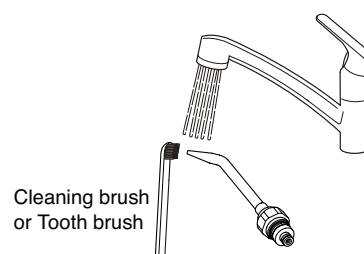

Fig.4-11 Cleaning Belmont 77 Syringe Nozzle
- Wipe off the surface contamination by a cloth while rinsing the surface by running clean warm water at 40 ± 5 degrees. Scrub the tip and joint part of nozzle by a cleaning brush or by a tooth brush with running clean warm water at 40 ± 5 degrees. (Fig.4-11)